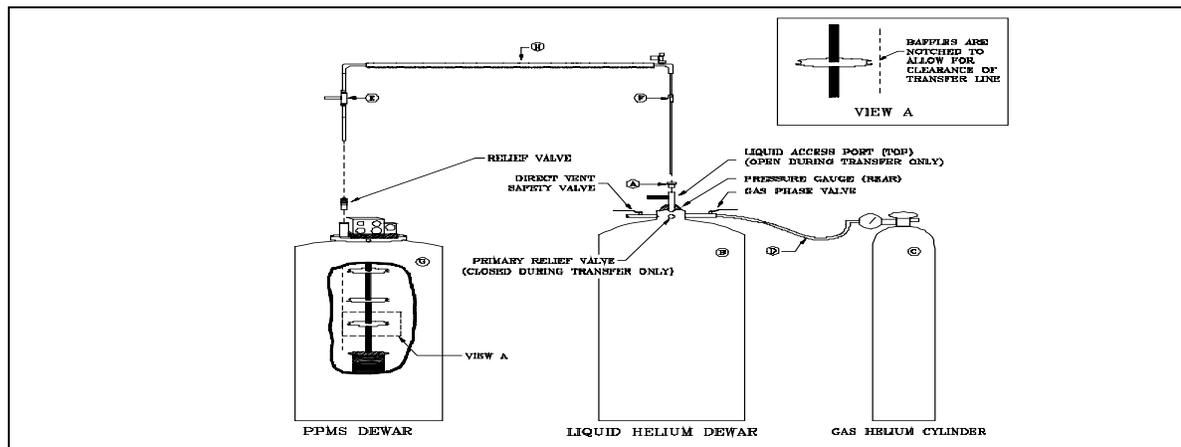

Figure 2. Helium Transfer Configuration
8. Remove either one of the dewar relief valves. These are the valves located on either side of the probe head. See Figure 2.